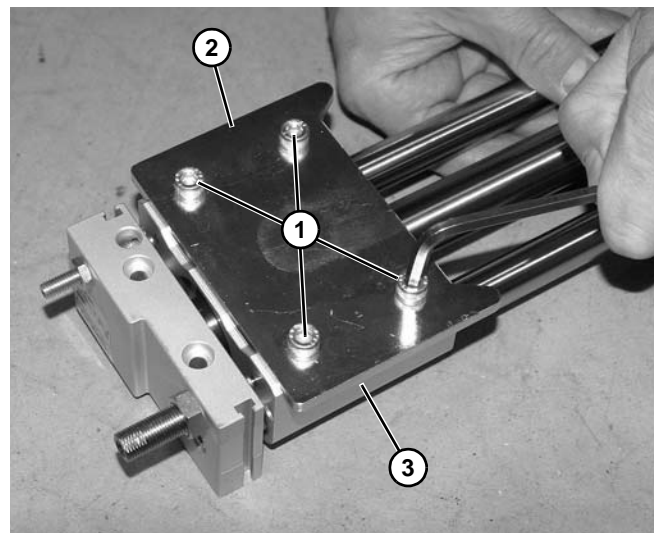

Figure 159
4. Remove four screws (Figure 159, item 3) and mounting plate (Figure 159, item 2) from cylinder body (Figure 159, item 3).